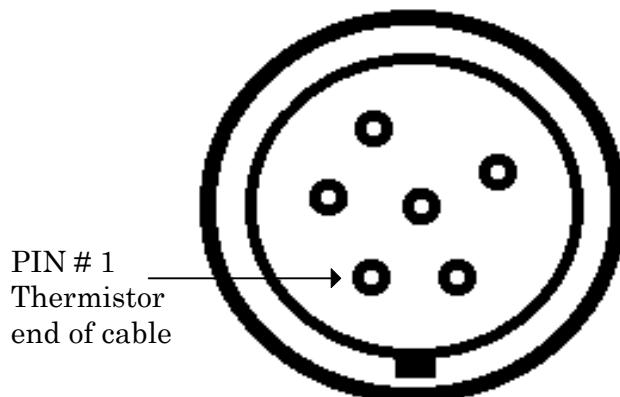

Figure 1. Thermistor cable pinout.
- c.** Connect multimeter between power meter  $V_{RF}$  center conductor (rear panel) and pin 1 of thermistor mount end of power meter interconnect cable (fig. 1).